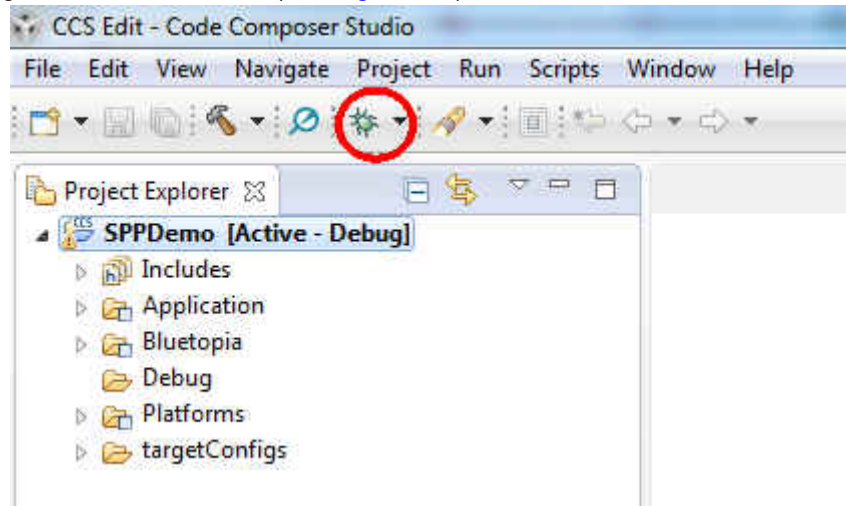

Figure 6-3. Debug Icon
7. Select the debug icon from the toolbar (see Figure 6-3).